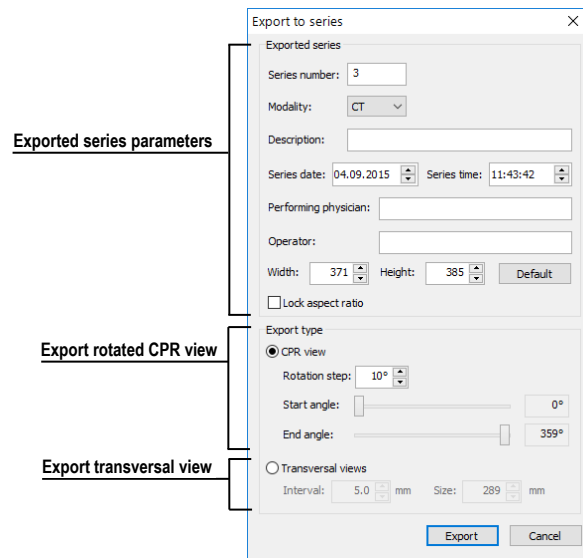

Figure 322 – Export to series dialog
2. The **Export to series** dialog will be displayed (Figure 322). Here you can specify: